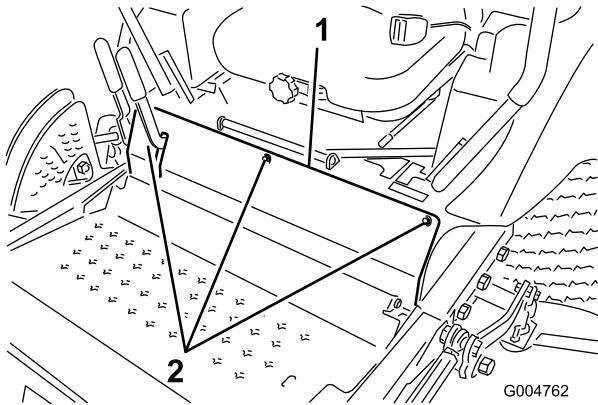

Figure 59
2. Remove the bolts securing the front panel and remove the panel (Figure 59).